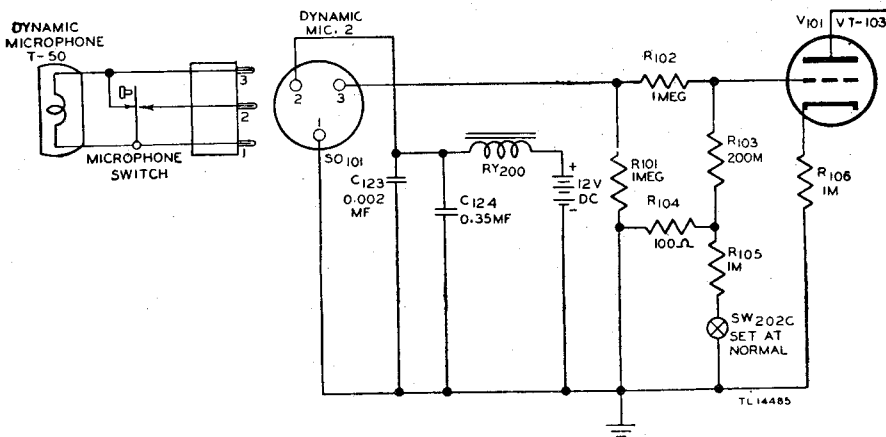

Figure 86. Dynamic microphone circuit—functional diagram.
b. DYNAMIC MICROPHONE T-50 (fig. 86). The control and socket marked DYNAMIC MIC. 2, located on the upper left-hand side of the front panel of the speech amplifier, are for use with a dynamic Microphone T-50. The cord for the dynamic microphone is equipped with an amphenol connector which fits into sockets  $SO_{101}$ . When a dynamic microphone is connected to socket  $SO_{101}$ , the a-f signal from the microphone is applied to the amplifier through pins 1 and 3. The microphone switch completes a 12-volt d-c circuit to ground